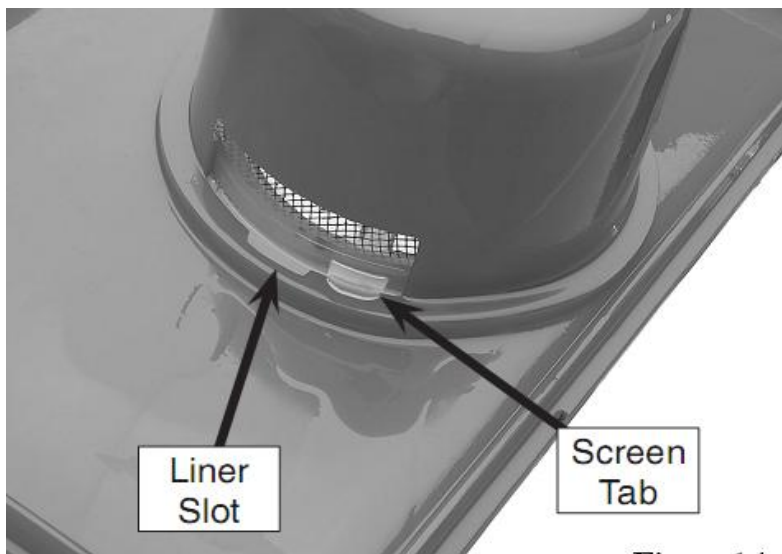

Figure 14
2.3 Remove the screen from the plastic liner by rotating it to align the screen tab with the liner slot as viewed from the underside in Figure 14